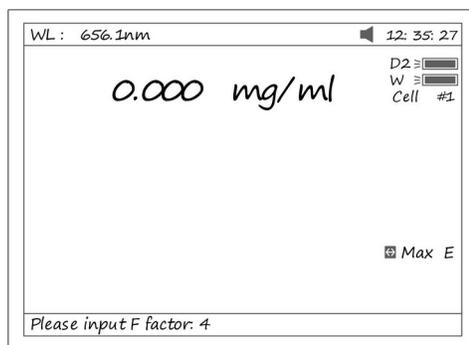

Fig 23
4.1 Press [F3] to input known F value, Fig 23. Then push the sample into Main Light Path to take reading of concentration